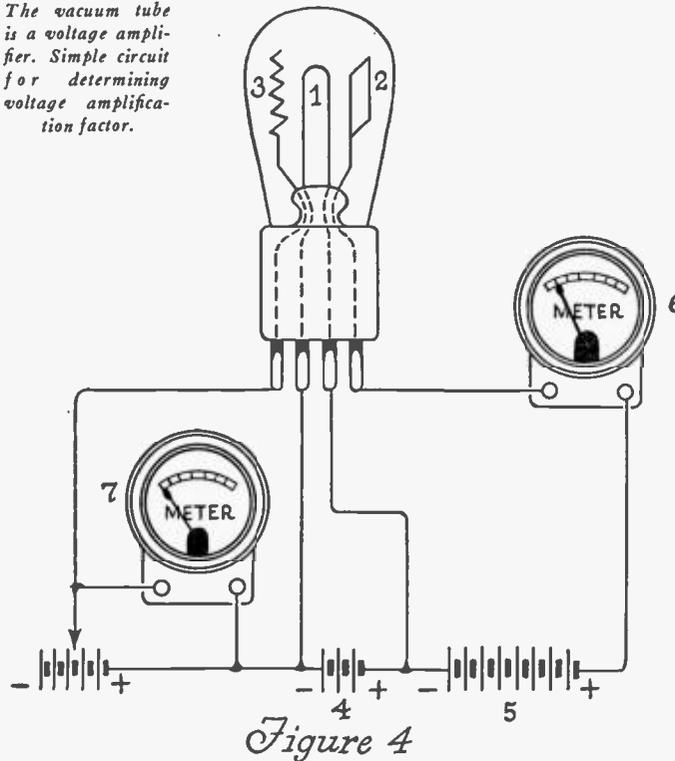

Figure 4
In Fig. 4 we see a diagram of a vacuum tube, with a filament (1), a plate (2) and a grid (3). The filament is heated by means of battery (4), while a plate battery (5) is used to give a positive potential to the plate. The plate current can be measured by means of a milliammeter (6). The grid is connected to the filament over a small battery, by